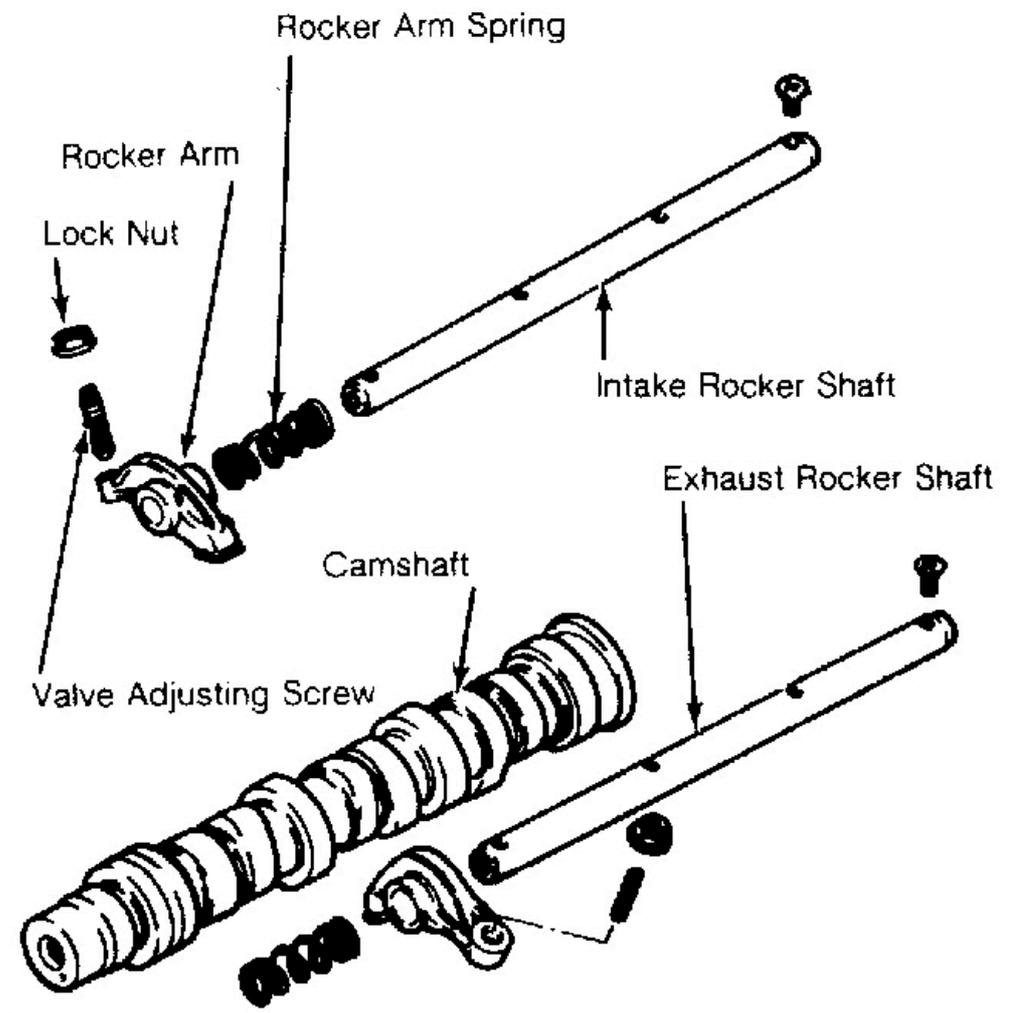

Fig. 5: Exploded View of Rocker Arm Assembly
4. Arrange rocker arms and springs on top of valves. Refer to **Fig. 5**. Install rocker arm shafts and tighten shaft support screws. Install gasket, distributor case and distributor on cylinder head.